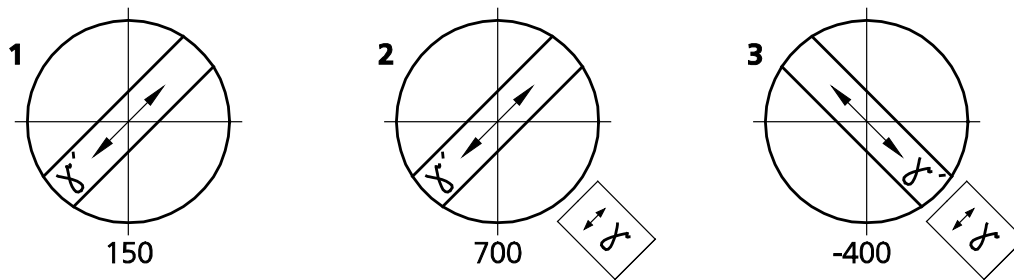
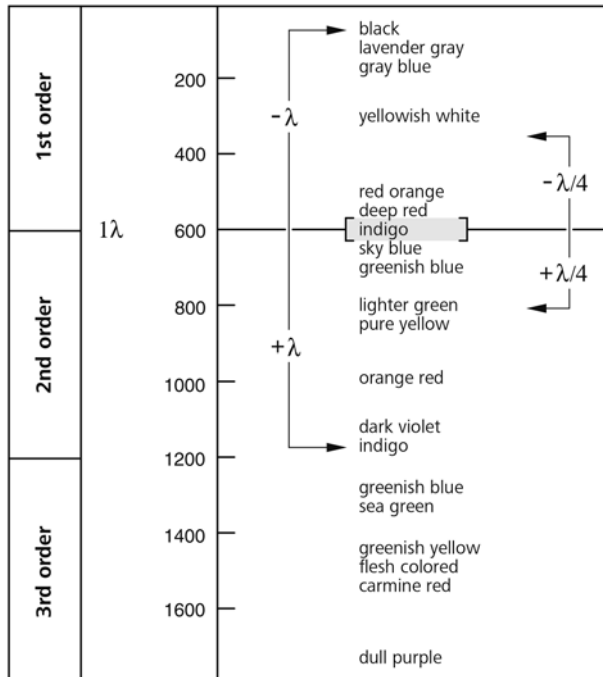

Fig. 4-10 Determination of the polarization direction $n_{\gamma'}$ in a synthetic fiber
Fig. 4-11 Diagram of the Michel-Lévy color tables
- Now turn the stage by approx. 45° until the longitudinal axis of the fiber is pointing in northeast-southwest direction (Fig. 4-10/1). The sample now shows the strongest brightness (diagonal position). The sample can have any color in this position.
The largest path difference occurs when the polarization direction of the sample or the absolute or relative largest index of refraction (n_γ or $n_{\gamma'}$) is parallel to the largest polarization direction of the λ compensator. The sample appears then e.g. in blue-green (Fig. 4-10/2).
The smallest path difference occurs when the direction of polarization of the sample with the absolute or relative smallest index of refraction (n_α or $n_{\alpha'}$) is perpendicular to the polarization direction of the compensator λ . The sample then appears e.g. yellow (Fig. 4-10/3).
According to the Michel-Lévy color table (Fig. 4-11), the gray-white color which occurs in the bright position as discussed in the example above (Fig. 4-10/1) corresponds to a path difference of 150 nm.